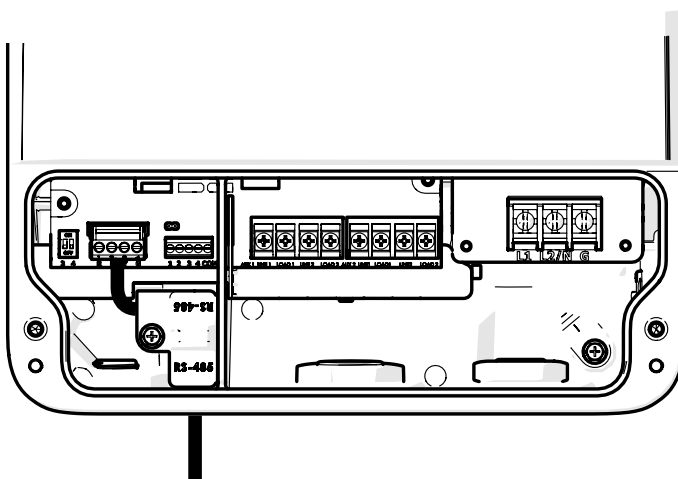

Figure 8. RS-485 Quick Connect Port with Wiring
In addition to being properly grounded as described in the *Electrical Wiring* section, and in accordance with the requirements of the National Electrical Code (NEC), or in Canada the Canadian Electrical Code (CEC), the pump motor must be bonded to all metal parts of the swimming pool, spa or hot tub structure and to all electrical components and equipment associated with the pool/spa water circulation system. The bonding must be accomplished by using a solid copper conductor, No. 8 AWG or larger. In Canada No. 6 AWG or larger must be used. Bond the motor using the external bonding lug provided on the motor frame. See Figure 8.
- RS-485 quick connect port (see Figure 8)
Please see Figure 8 for RS-485 wiring instructions.